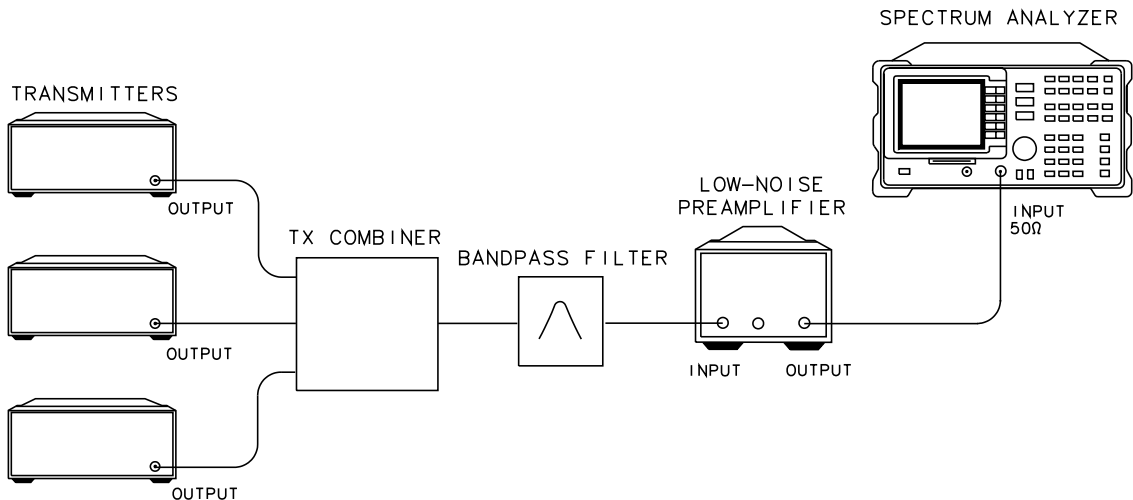

Figure 37 Test Setup for Intra-BSS Intermodulation - RX Band
- 1 Refer to Figure 37 on page 84 for the test setup.